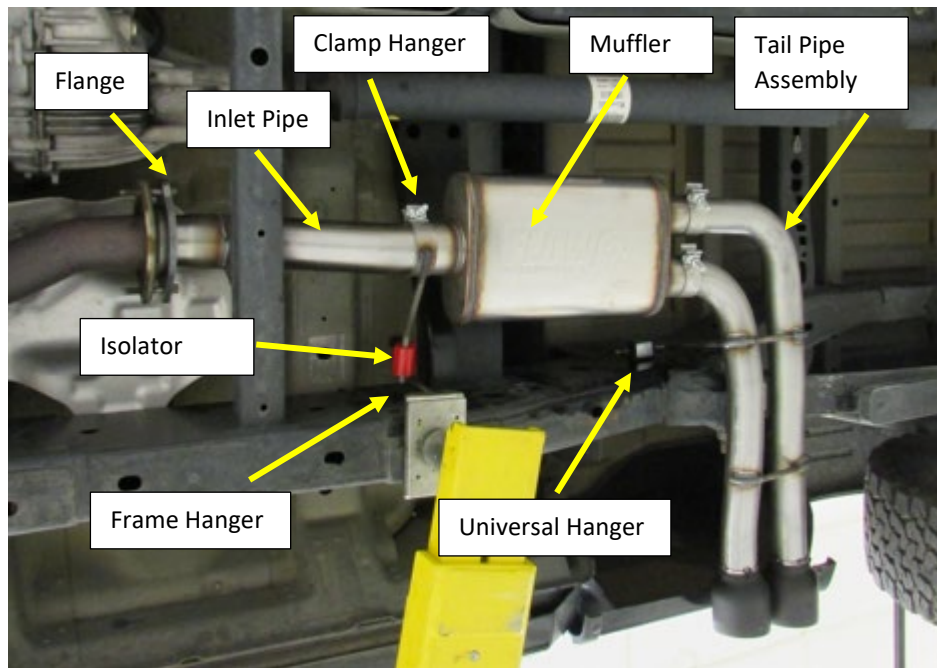

Figure.2
1. Install the supplied flange on to the inlet pipe with the machined side toward the ball flare. **Fig.2**
2. Install the supplied inlet pipe on to the factory down pipe, using the factory bolts that were removed from the resonator. Install the inlet pipe straight and level allowing $\frac{3}{4}$ " space between the pipe and crossmember. **Fig.2/3**
5. Install the Flow FX muffler (2) on to the inlet pipe (1) approximately 2.5". Align the clamp hanger (6) with the front edge of the muffler inlet pipe and tighten to allow for adjustment. Support the muffler level and straight to the frame rail. **Fig.2/4**